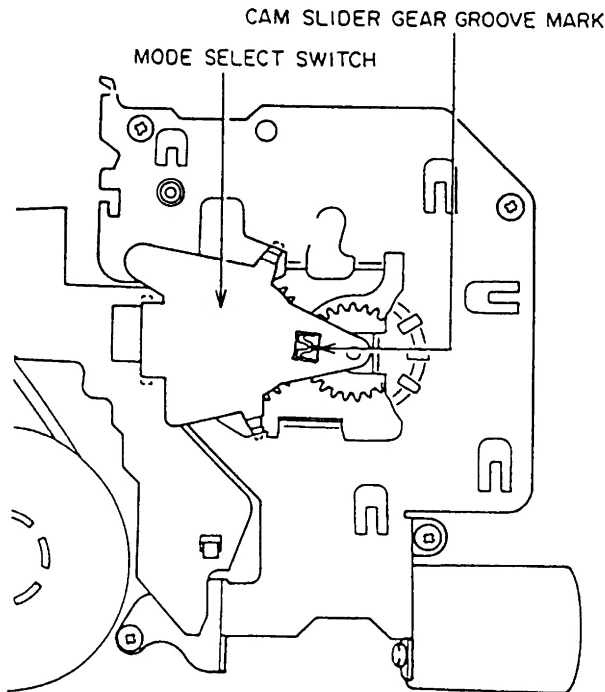

Fig. 3-4
* Before proceeding with removal of the SENSOR PCB the loading mechanism must be set to the "unloaded" position (the position where the CAM SLIDER GEAR's groove mark is visible through the hole of the MODE SELECT SW.) as shown in Fig. 3-4.